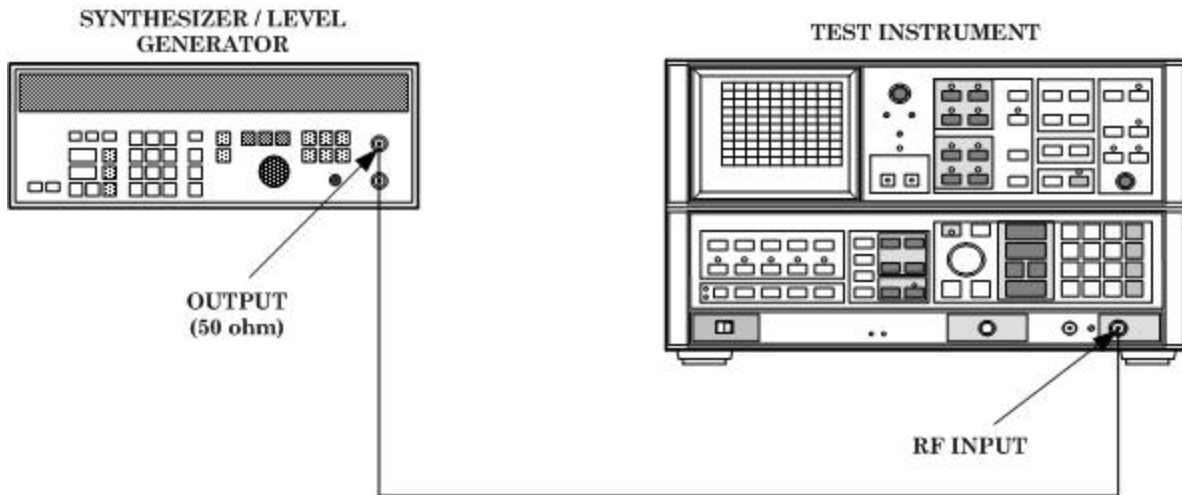

Figure 23. IF gain equipment setup.
- (1) Press TI **2-22 GHz**.
- (2) Connect TI **CAL OUTPUT** to TI **RF INPUT**.
- (3) Press TI **RECALL, 8**.
- (4) Adjust TI **AMPTD CAL** control for a **MARKER** amplitude indication of -10.00 ± 0.02 dBm on the TI display.
- (5) Press TI **2-22 GHz** key.
- (6) Connect equipment as shown in fig. 23.